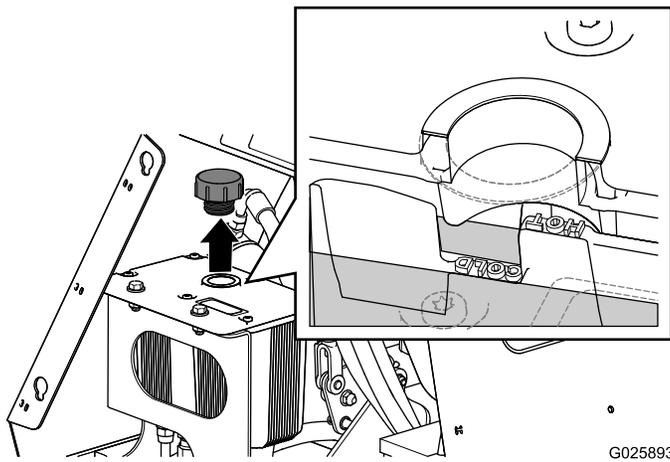

Figure 7
6. Remove the cap and check hydraulic oil level in the reservoir (Figure 7).
7. If necessary, add the specified hydraulic oil to the reservoir until the oil covers the **Cold** oil level on the baffle (Figure 7).
8. Replace hydraulic reservoir cap and tighten until snug (Figure 7).